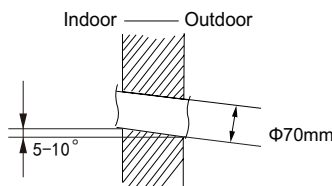

Fig.2
(2) Open a piping hole with the diameter of $\Phi 70\text{mm}$ on the selected outlet pipe position. In order to drain smoothly, slant the piping hole on the wall slightly downward to the outdoor side with the gradient of $5\sim 10^\circ$.(As show in Fig.2)